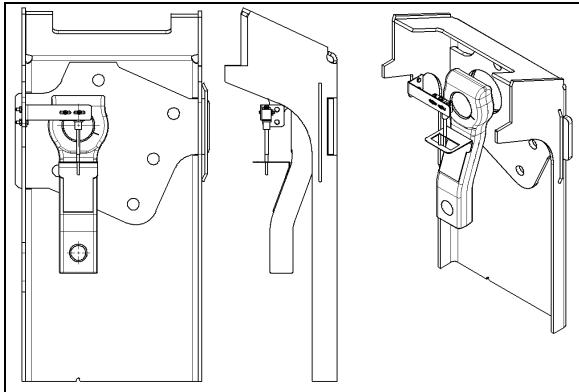

FIGURE 21: TAG AXLE UNLOADING SWITCH ADJUSTMENT 14061
- Line up switch lever with reference to the bracket center (Refer to Figure 21).